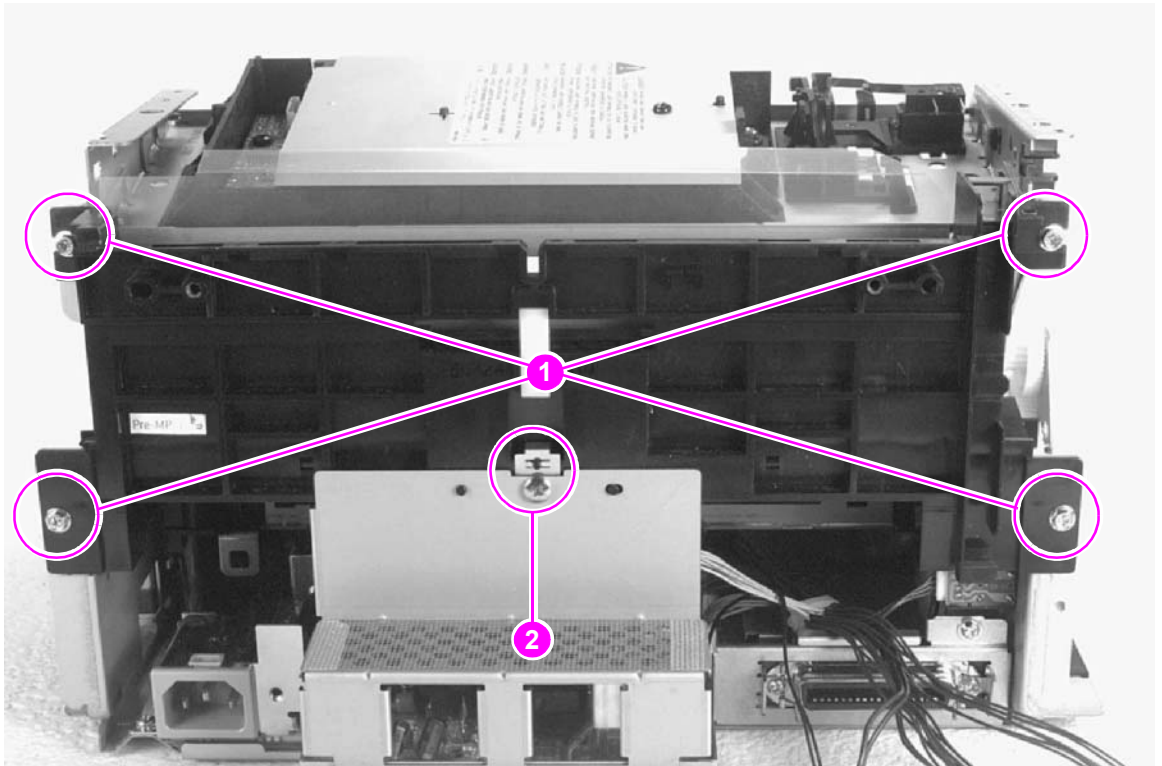

Figure 6-28 Paper Feed Frame removal (3 of 4)
- 5 Remove the self-tapping screw from the back sheet metal plate and lift it off (Figure 6-28, callout 1).
- 6 Remove the (4) hex head screws from the Paper Feed Frame (Figure 6-28, callout 2).